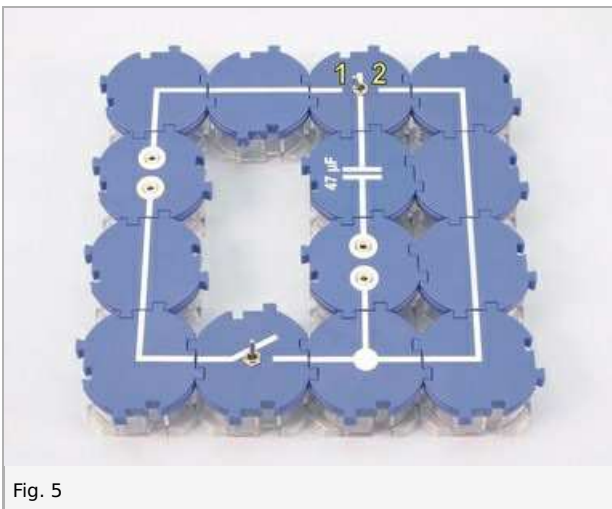
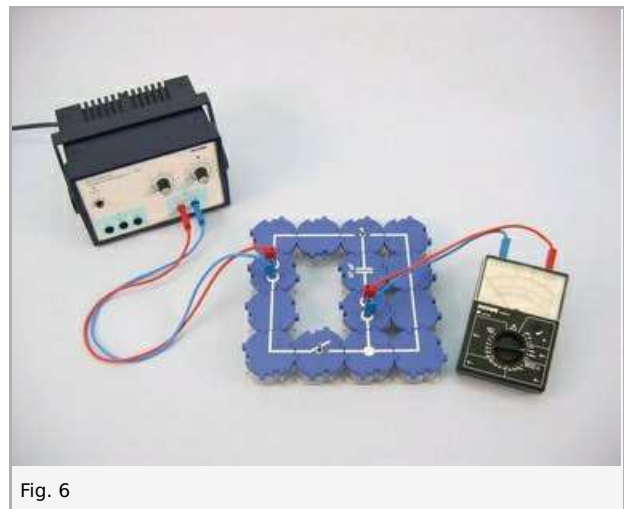

Fig. 5
Fig. 6
- Set the multi range meter to measurement range 30 mA– and install it in the circuit as an ammeter in place of the filament lamp, as shown in Fig. 5 and Fig. 6.